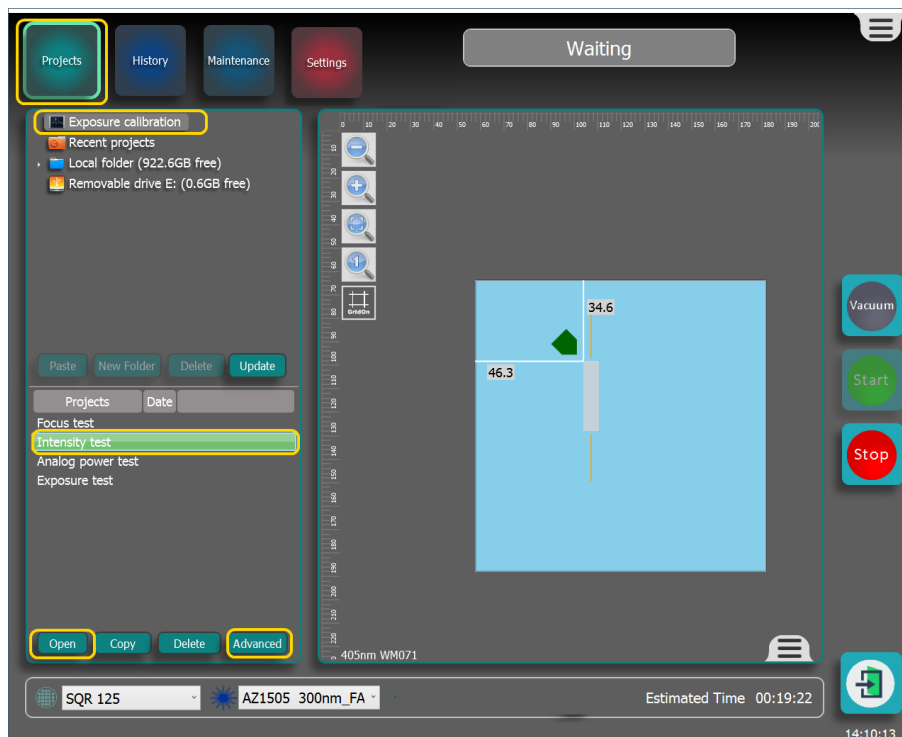

Figure 3-63 Starting the Intensity Test
2. To start the Intensity Test, select **Projects**, see **Figure 3-63 below**.